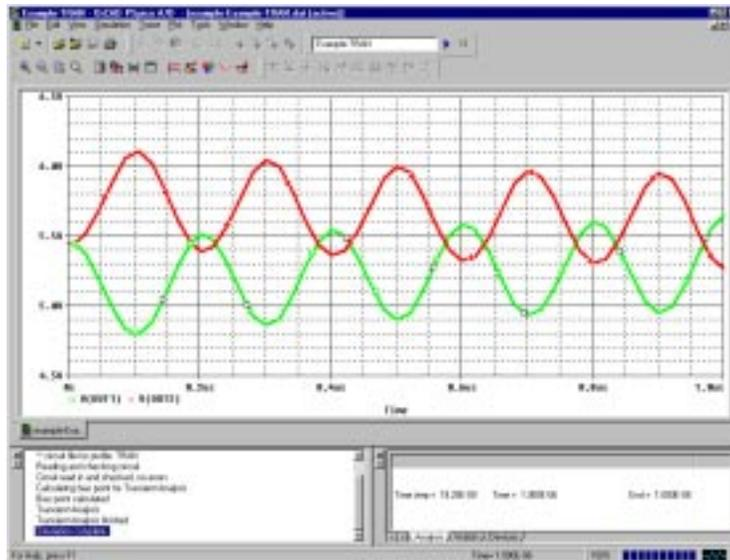

Figure 56 PSpice A/D simulation window
The PSpice A/D Simulation Window consists of three sections: the main window section where the open files are displayed, the output window section where output information such as informational, warning, and error messages from the simulator are shown, and the simulation status window section where detailed status information about the simulation are shown. These three sections are shown in Figure 56.
displayed in the main window area. For example, the simulation window shown in Figure 56 indicates that simulation profile Example-TRAN is currently open and the active document displayed is Example-Example-TRAN.DAT.
**Main window section** The top central portion (by default) of the simulation window is the main window section where documents (such as waveforms, circuit description, output information etc.) are displayed within child windows. These windows are tabbed by default. The tabs at the bottom left show the names of the documents that each child window contains. Clicking on a tab brings that child window to the foreground. Figure 56 shows the tabbed document windows for